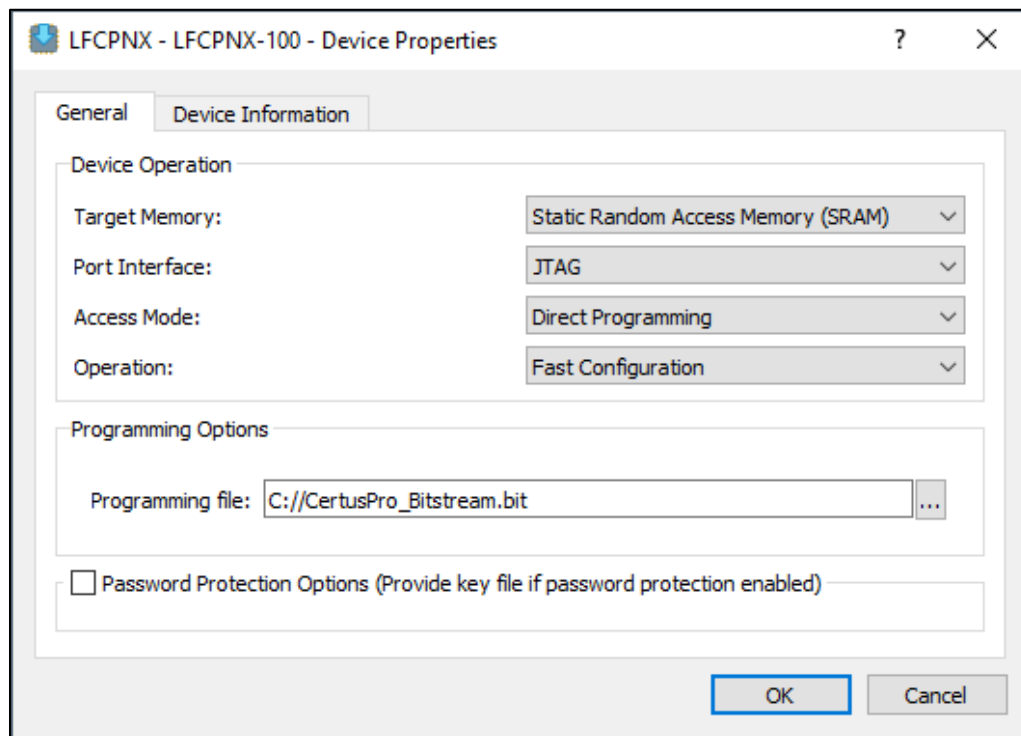
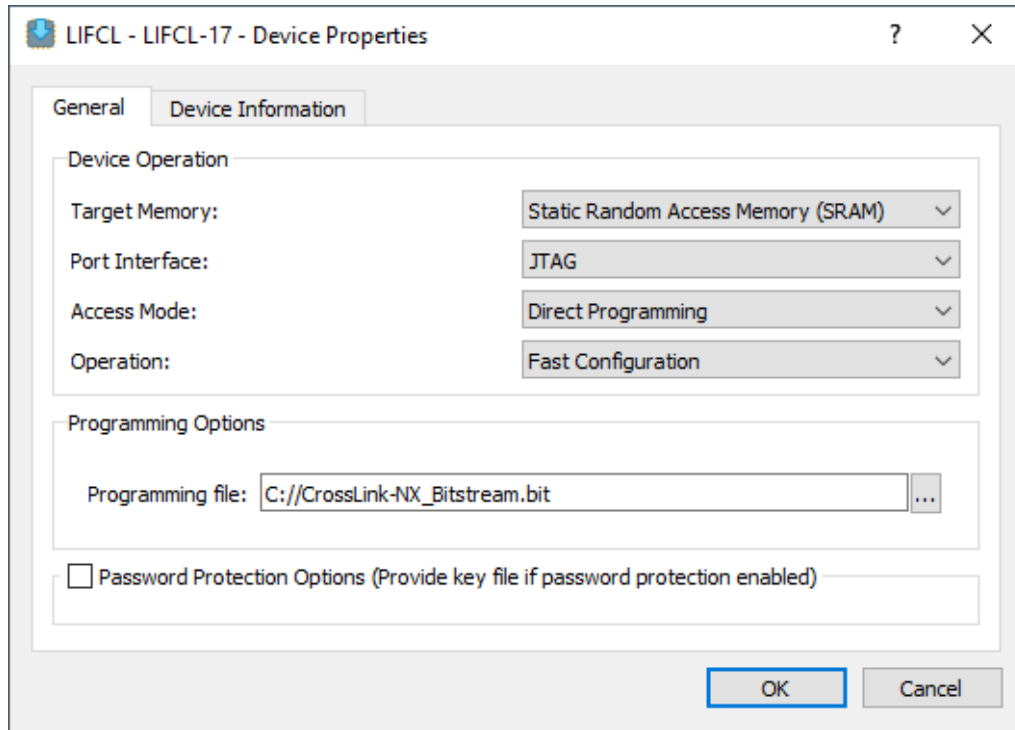

Figure 3.5. SRAM Device Properties Window – CertusPro-NX
Figure 3.6. SRAM Device Properties Window – CrossLink-NX
- Double-click on the **Operation** field and select the appropriate programming mode. In this example, **Fast Configuration** of **Static Random Access Memory (SRAM)** is selected (Figure 3.5 and Figure 3.6).